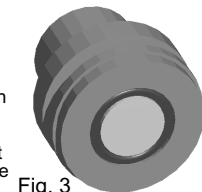

Fig. 3
3. Place the delay element stack on end, on a flat surface. Place the bulkhead over the stack and press down until the end of the delay element is flush with the bulkhead (Fig 3).